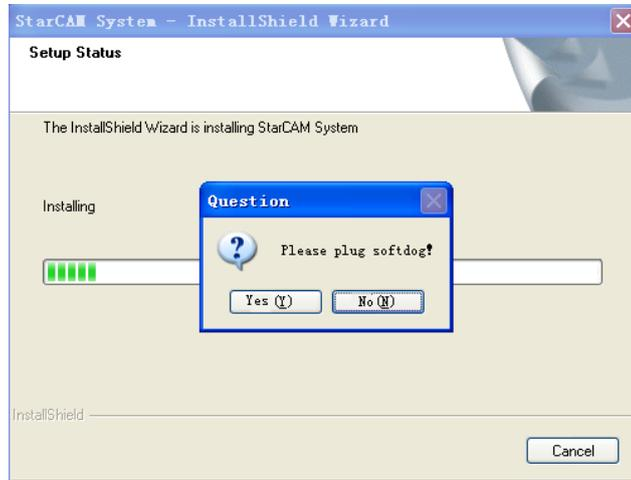

Figure 9
9. If forgetting to insert the encryption lock when installing the software, insert the encryption lock when the prompt shown in Figure 9 appears, then click the button “Yes”, the file can be copied continuously.